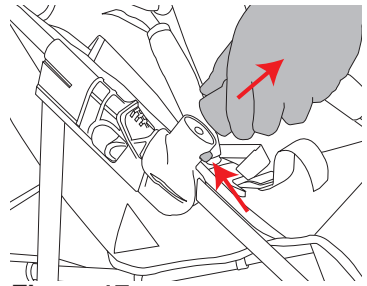

Figure 17
- Remove the two safety caps from the frame mount points by pressing the release button and pulling each cap off. See Figure 17.